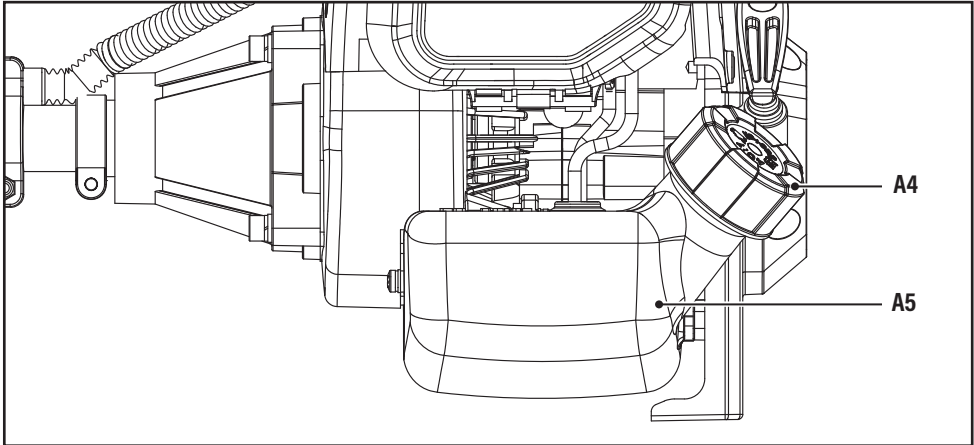

Fig. 7
4. Unscrew the fuel tank cap (A4) (Fig.7).